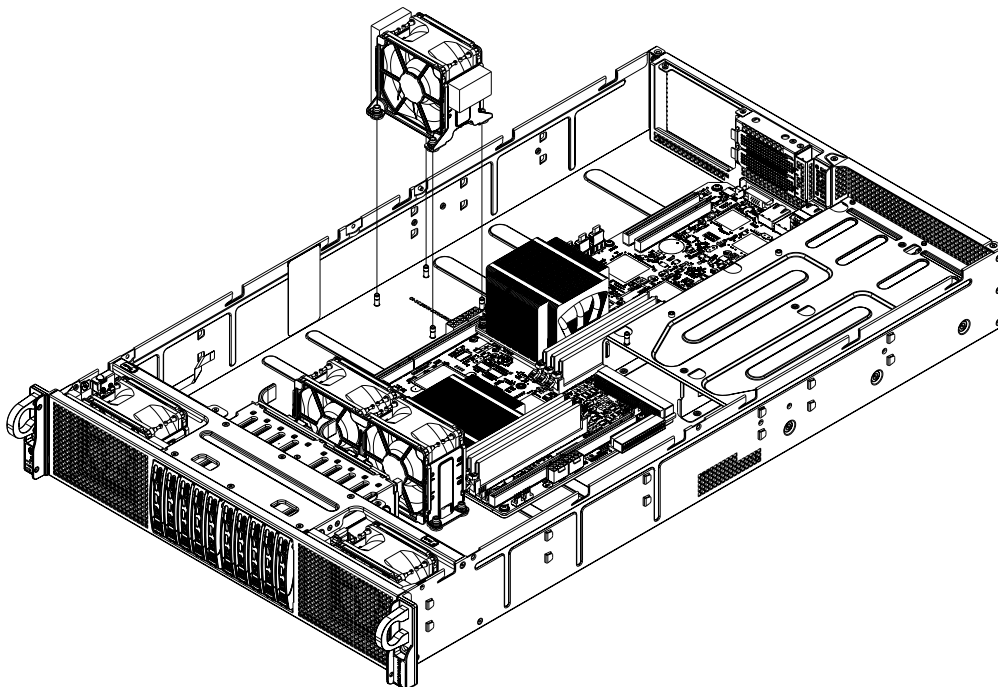
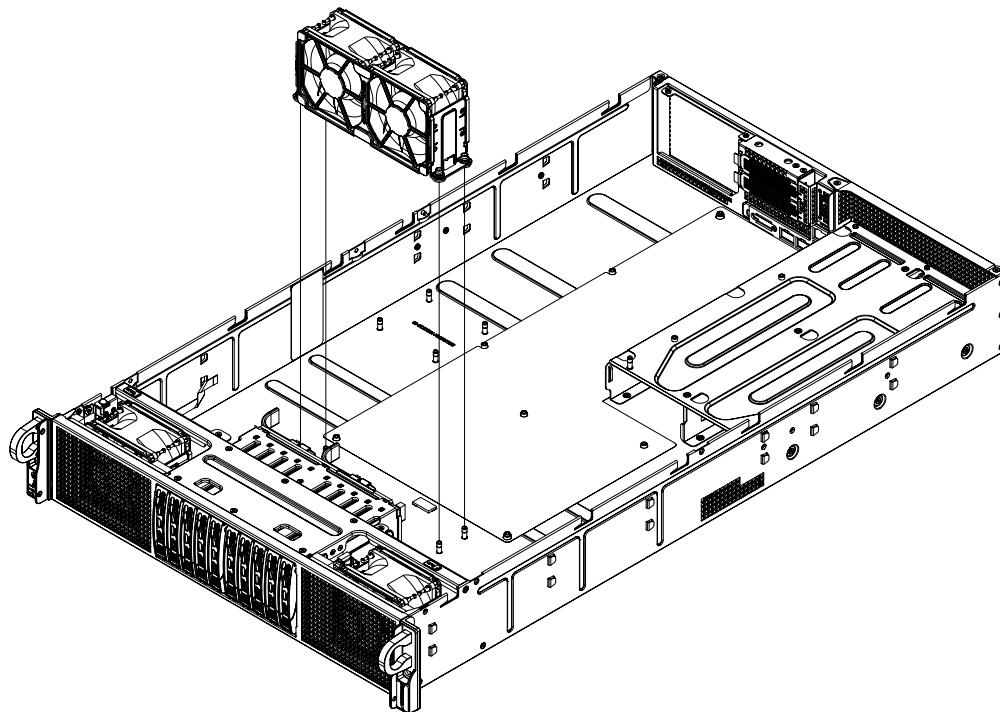

Figure 6-6 Remove/Replace GPU Fan Example
Figure 6-7 Mid-chassis Fan Assembly Remove/Replace Example
3. Lift the fan housing up and out of the chassis, see Figure 6-6 for the GPU fan extraction example. See Figure 6-7 on page 53 for the mid-chassis fan extraction location.